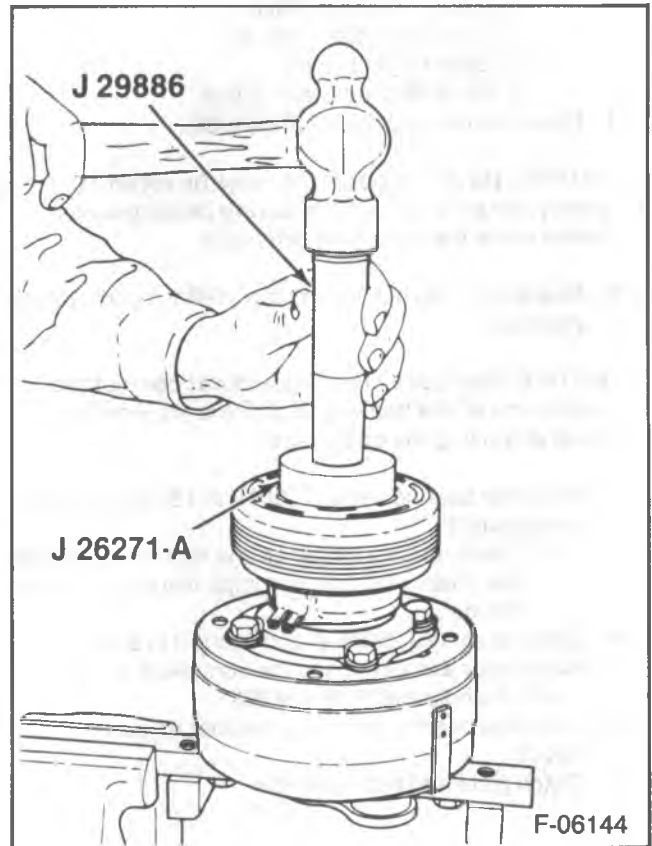

Figure 29—Installing the Rotor and Bearing Assembly — Poly-Groove Type
5. Clutch coil assembly using J 26271-A and J 29886 (figure 29).
3. Clutch coil assembly using J 26271-A and J 29886 (figure 29).